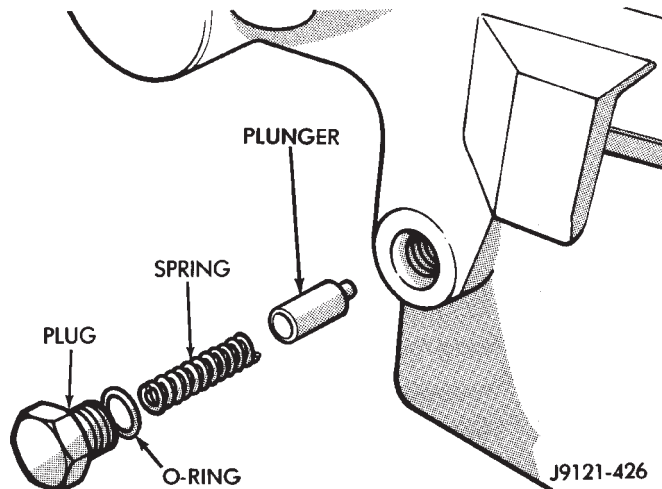

Fig. 81 Detent Pin, Spring And Plug Installation
(22) Install plug in lockpin access hole.
(23) Install detent plunger, detent spring and detent plug in case (Fig. 81).